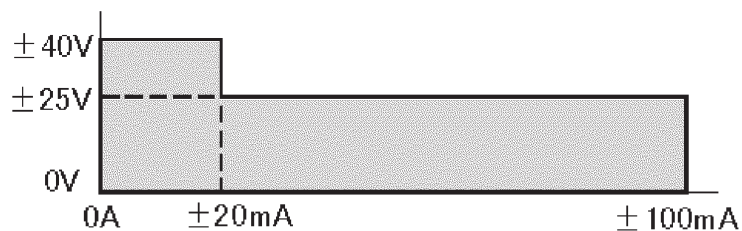

Figure 1. DC bias range
– Range	0 to ± 40 V (see Figure 1)
– Range	0 to ± 100 mA (see Figure 1)